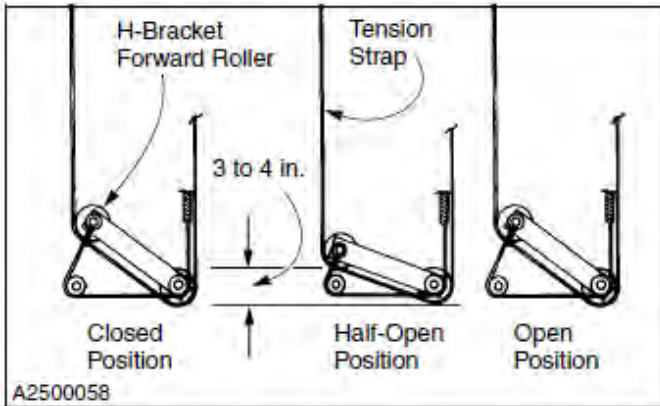

Figure 61
- Check the height of the H-bracket forward roller when the door is at the half-open position. It will have dropped below the 7 to 8 in. described in step 5, but should not drop below 3 to 4 in. above the side column base plate. The H-bracket should also be in the positions shown in Figure 61 as the door moves up and down. It should never go below the 3 to 4 in. position. Readjust as required.